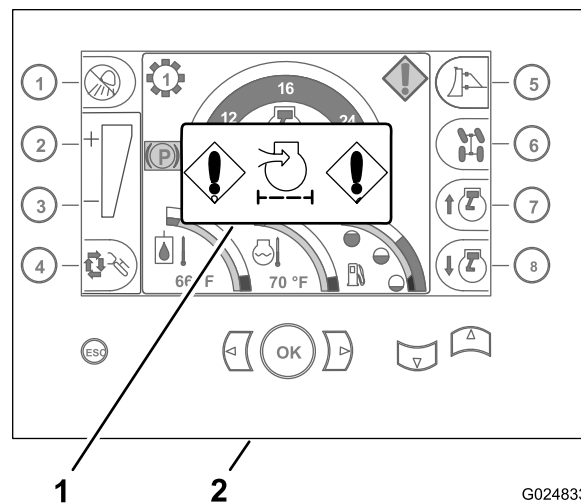

Figure 27
2. Check to see if the restricted air-cleaner indicator is displayed in the home screen of the command center (Figure 27).